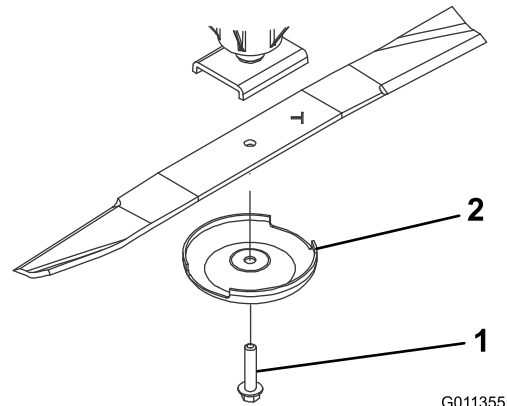

Figure 103
- Remove the blade bolt, anti-scalp cup, and blade from the spindle shaft (Figure 103).